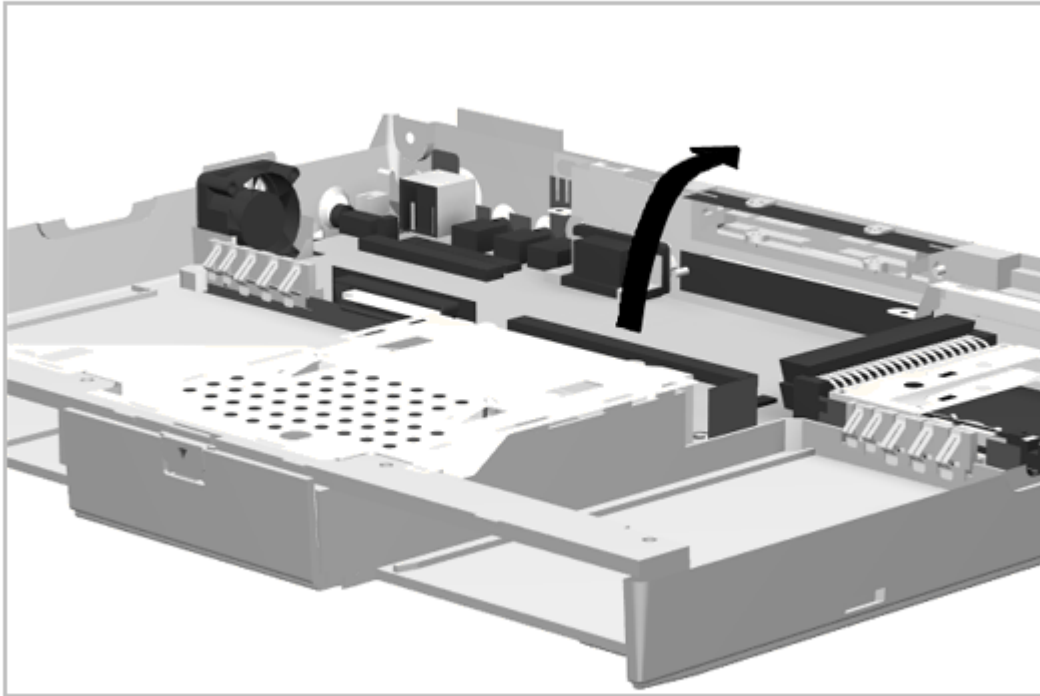

Figure 5-59. Removing the System Board
9. The system board can now be lifted out of the computer as shown in Figure 5-59.